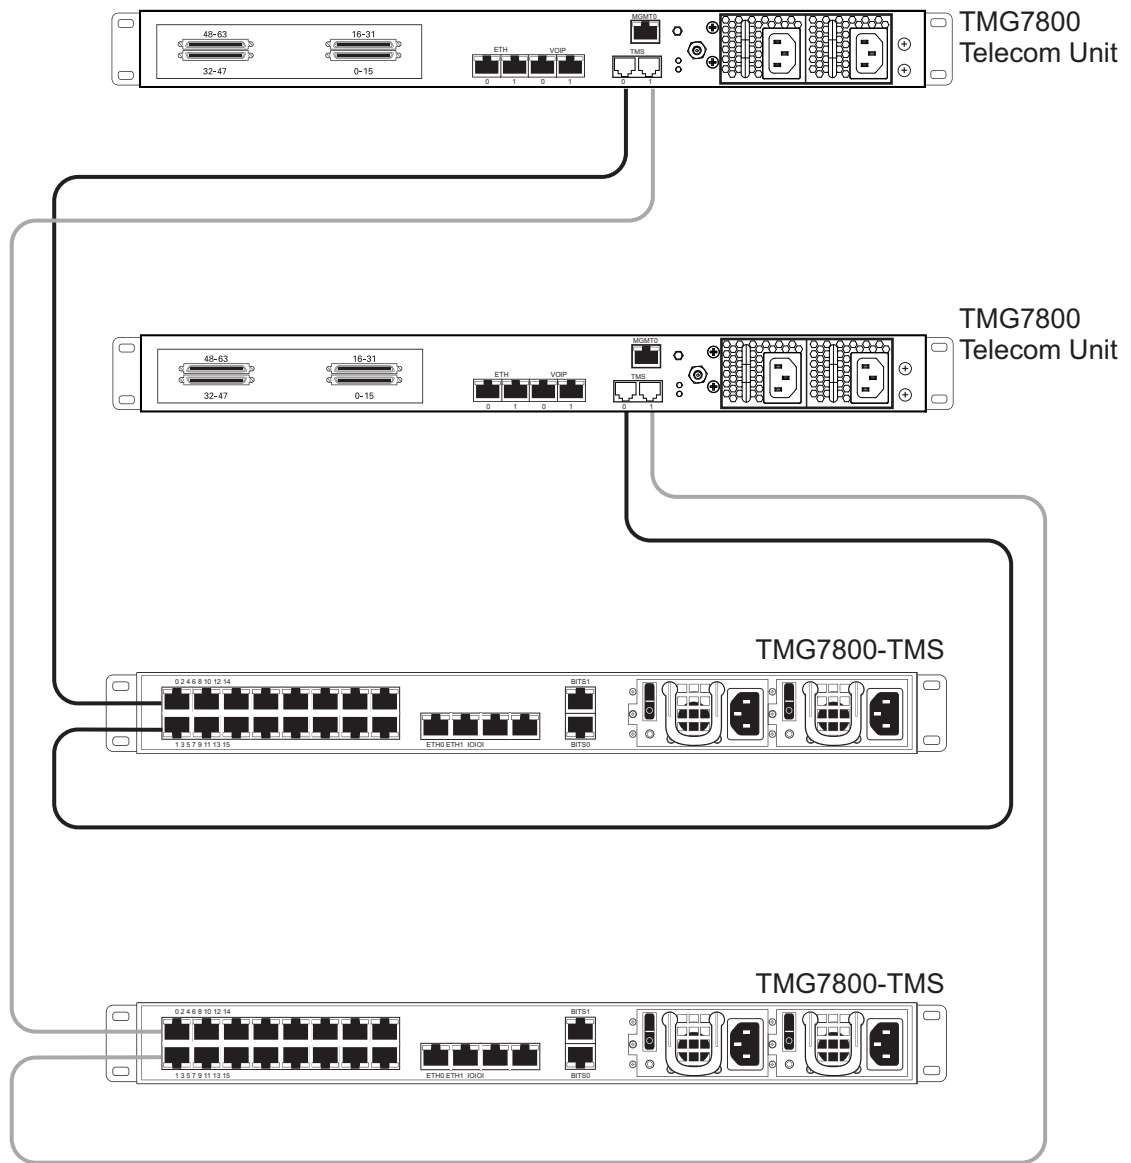

Figure 4.10 Interconnecting Two 7800 Telecom Units to an active and standby 7800-TMS
1. Start with the 7800 Telecom Unit at the topmost position of the equipment rack and connect a TelcoBridges CAT7 shielded Ethernet crossover cable to the TMS0 connector at the rear of the 7800 Telecom Unit, figure 4.10 on page 36. Connect the other end of the same TelcoBridges CAT7 cable to the first port of the first 7800-TMS.
2. If your system employs a second 7800-TMS, connect a second TelcoBridges CAT7 shielded Ethernet crossover cable to TMS1 at the rear of the TMG7800 Telecom Unit, figure 4.10 on page 36. Connect the other end of the same TelcoBridges CAT7 cable to the first port of a second 7800-TMS.